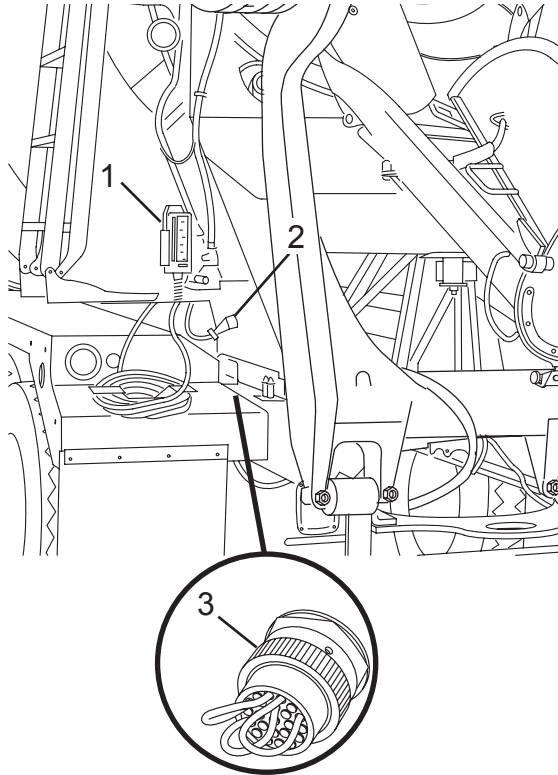

Figure 65
2. Disconnect the rear pendant harness connector (Figure 65, Item 2) from the rear pedestal.
3. Install a jumper plug (Figure 65, Item 3) into the rear pendant harness connector. Purchase the jumper plug from www.streetsmartparts.com or by calling Revolution Parts at (855) 202-6491.
If the rear pendant (Figure 65, Item 1) is lost, or becomes damaged or faulty, a jumper plug (Figure 65, Item 3) must be installed in the rear pendant socket to allow operation of control functions from the cab control box.